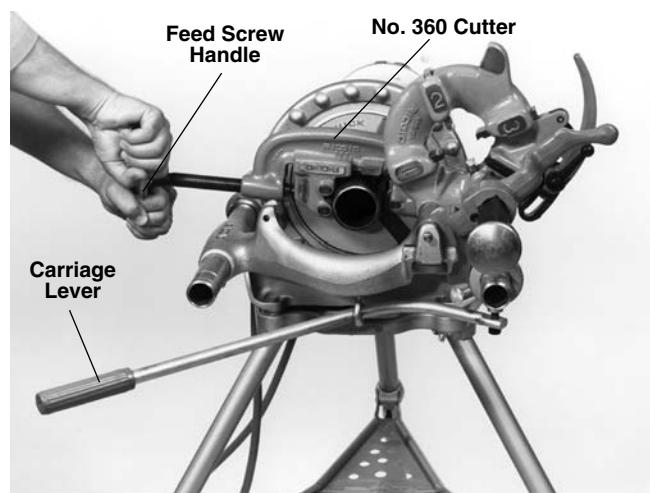

Figure 9 – Cutting Pipe with No. 360 Cutter
1. Check to insure the reamer and die head are in the UP position (Figure 9).
- 6. Grasp the pipe cutter's feed handle with both hands (Figure 9).